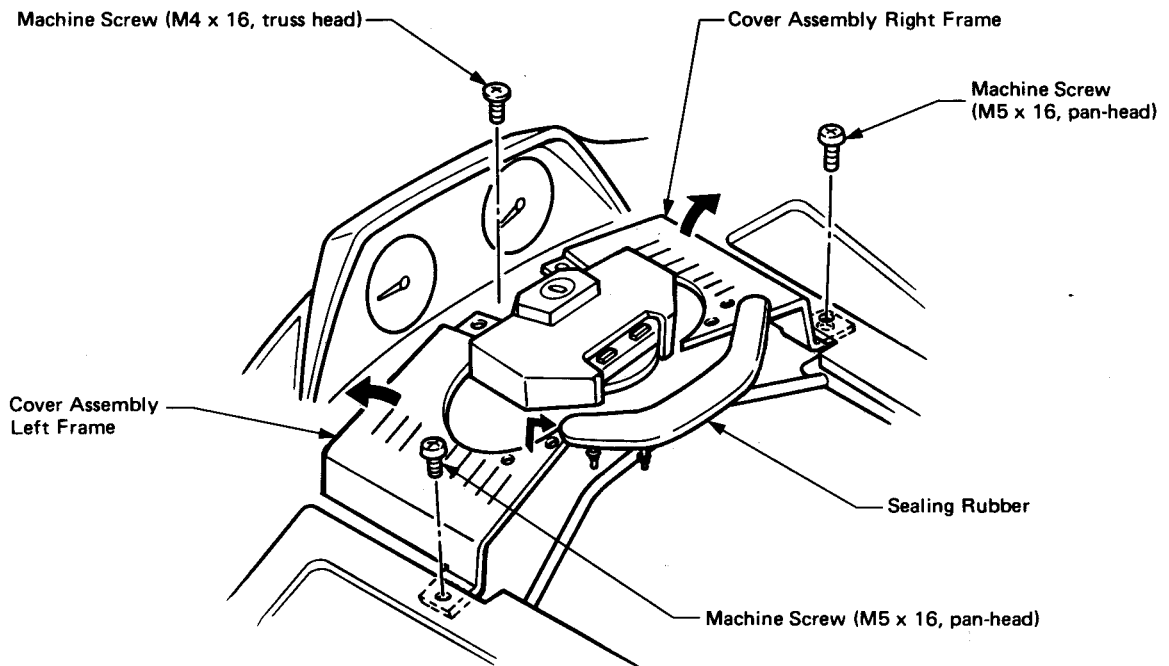

Fig. 7
(2) Remove the screws and the left and right Cover Assembly Frames, as shown in Fig. 7.